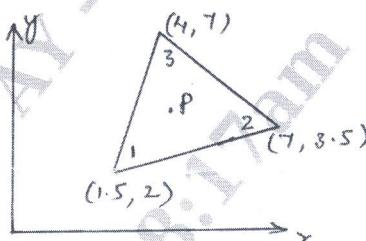

Fig. Q5 (b)
- b. For the triangular element shown in Fig. Q5 (b). Determine Jacobian matrix and also shape function at points P(3.85, 4.8) (10 Marks)